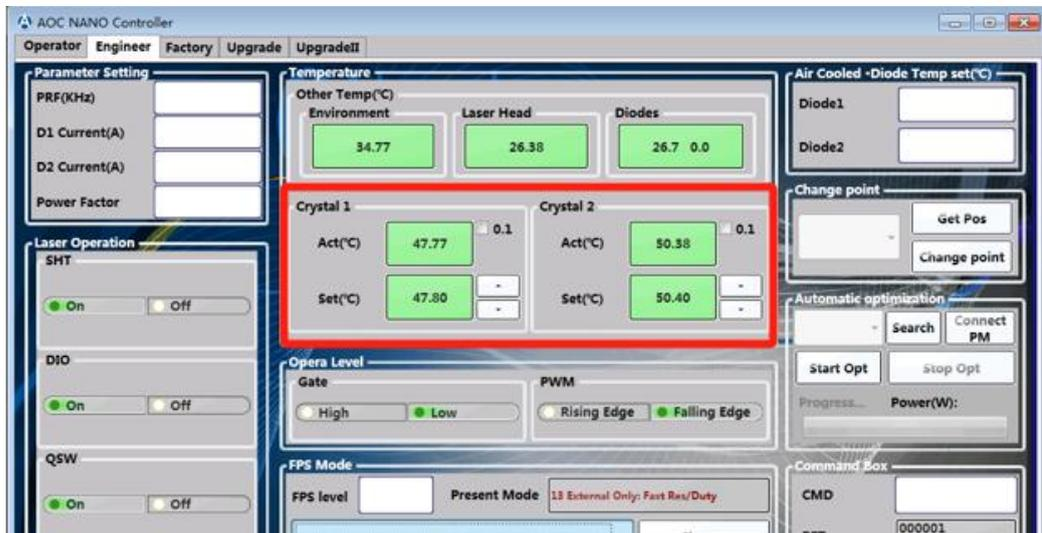

Figure 9
- ✧ While in Operator GUI please hit the Engineer Tab and then the password AOC when prompted. Once the Engineer GUI is opened located the Crystal 2 Temperature Adjustment Section, see figure 9.